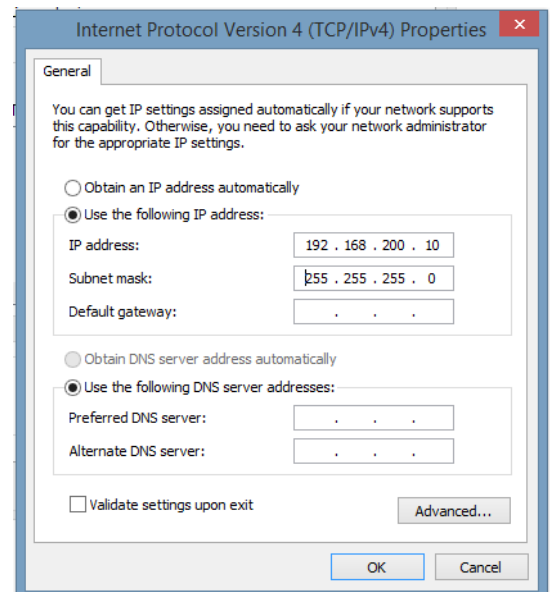

Fig. 2-14, Internet Protocol (TCP/IP) Properties Screen, Windows 10
7. The Internet Protocol (TCP/IP) Properties dialog box will open (Fig. 2-14). Select "Use the following IP address". Enter the values as shown (i.e. IP address 192.168.100.2 and subnet mask 255.255.255.0). Record the existing IP address and subnet mask in order to later return the computer to its original state.